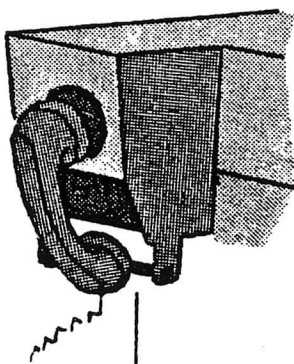

Figure 4. Transmission Test Fixture.
- (1) Press TRANSMISSION button.
- (2) Place handset on fixture as shown in Figure 4.
- (3) Press TRANSMISSION button again while holding the handset on the fixture. Maintain placement of handset until a test result is displayed.
- (4) Check result - PASS, MARGINAL/FAIL, or FAIL.